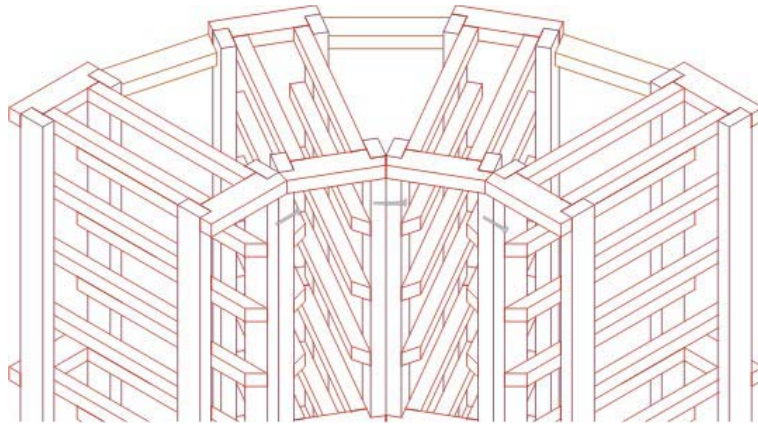

Figure 11
16. Once you have attached the front uprights to each other, the top of your rack should resemble **(Figure 11)**.